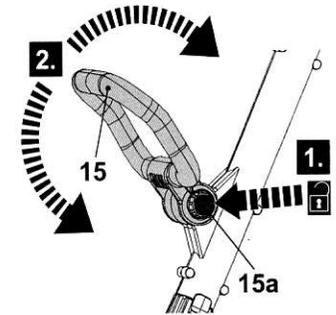

Fig. 4
1. Press down the lock button (15a) and hold it in position, then rotate the auxiliary handle (15) upward or downward to adjust the angle (Fig. 4).
2. Release the lock button (15a), and continue to gently swing the auxiliary handle (15) until it locks in place. Ensure the tooth system locks in place.